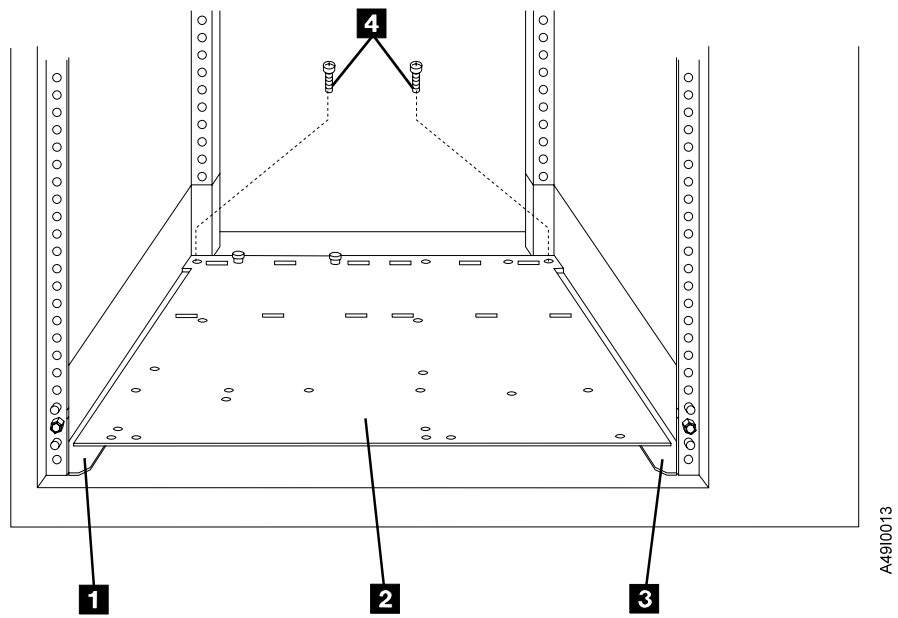

Figure 7. Base Plate Installation
— Step 6. Place base plate 2 on rails 1 and 3 on rack. Position plate with large holes to front and left. Do not fasten plate to rails at this time. See Figure 7.
- ___ Step 10. Refer back to Figure 7 on page 10 for this procedure. At the rear of the base plate 2, align holes through base plate with threaded hole in rails on each side 1 and 3.
- ___ Step 11. Refer back to Figure 7 on page 10 for this procedure. Insert screws 4 through the holes aligned in previous step into the threaded hole in the rail and tighten screws to secure the base plate in place.